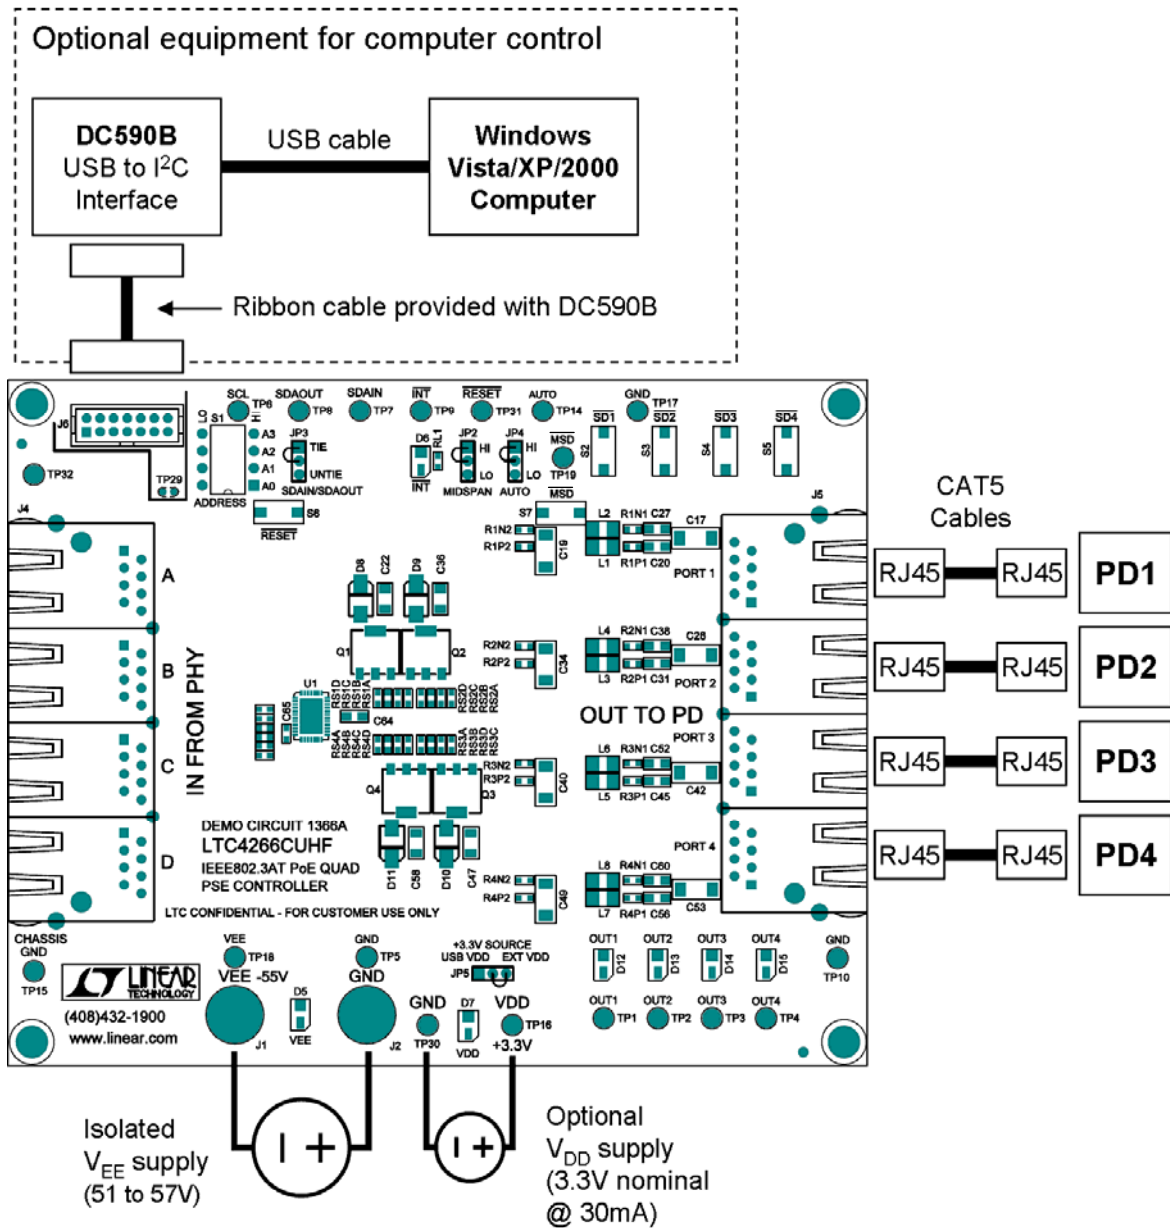

Figure 1. DC1366A Board Setup.
Figure 1 shows the basic setup. The LTC4266 requires two power supply rails: VDD (nominally 3.3V) and VEE (nominally -54V). The VDD supply can be provided by the DC590B board or an external bench supply.
7. Connect the main power supply to the DC1366A board with two banana patch cords as shown in Figure 1. **Verify the polarity is correct before turning on the power; positive goes to GND and negative to VEE.**
2. Connect a 3.3V power supply to the TP16 and TP30 test points as shown in Figure 1. Turn on the 3.3V supply and verify the VDD LED on the DC1366A board is lit.
4. Connect the main power supply to the DC1366A board with two banana patch cords as shown in Figure 1. **Verify the polarity is correct before turning on the power; positive goes to GND and negative to VEE.**